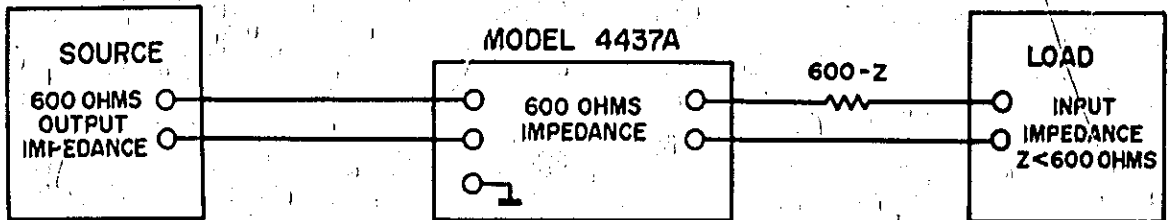

Figure 3-10. Simple Output Matching with Series Resistor
a. When the impedance of the load is lower than that of the Model 4437A and the load is not affected by mismatch, impedance match for the Model 4437A output can be obtained by inserting a series resistor between 4437A output and load as shown in Figure 3-10. Resistor value should be the difference between the Model 4437A output impedance and the load impedance.